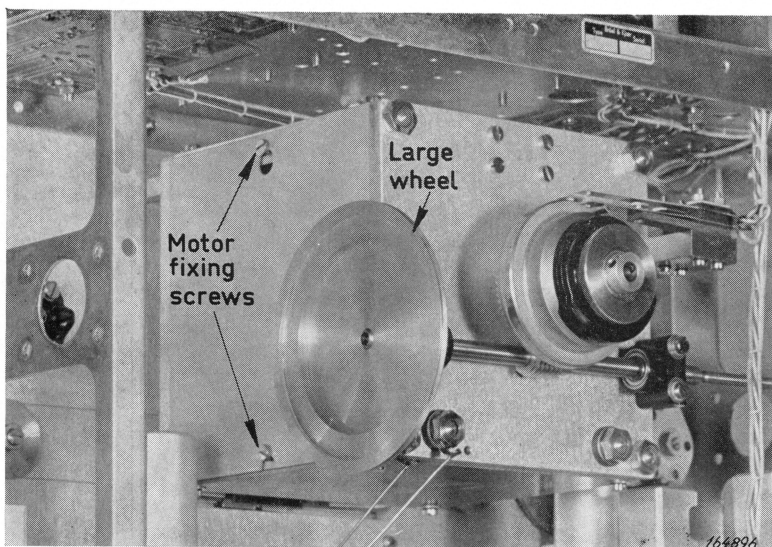

Fig. Aa2.
3. Mount the large wheel on the remaining part of the shaft as shown in Fig. Aa2.